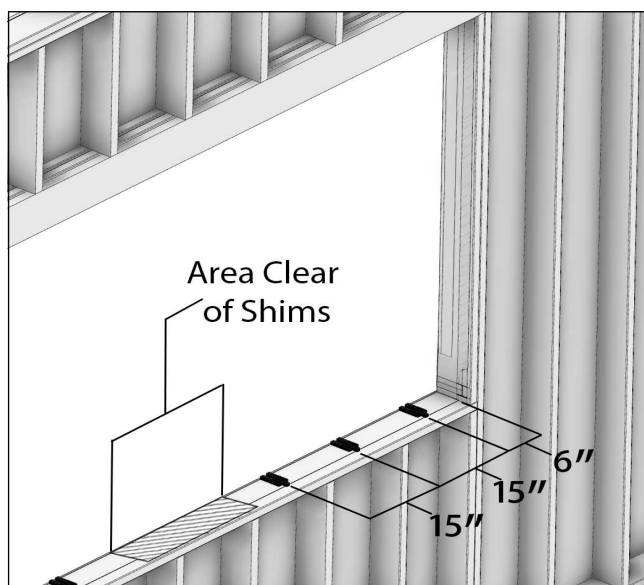

Figure 16
7. **Shim unit:** 1/16" shims are required to be applied to the sill prior to placing assembly in the RO. Do not shim under gusset plates. Shim spacing is 6" max from corner and 15" max on center. See Figure 16